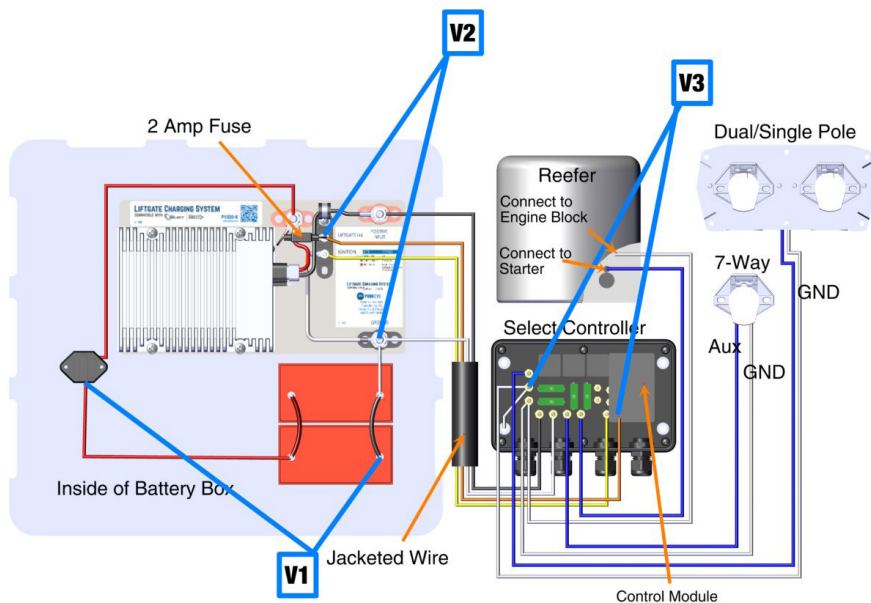

Figure 5
No LED: Open circuit between liftgate battery positive or liftgate battery ground and the Select Controller. Follow the steps below to diagnose the No LED Status (see Figure 5).
Step 1: Using a voltmeter, measure the voltage between the DC/DC converter side of the circuit breaker and the negative post on the liftgate battery (see V1 in Figure 5). If the reading is less than 12.0 V, charge or replace the batteries. If the battery reading is higher than 12.0 V, move to step 2.
**Step 2:** Using a voltmeter, measure the voltage between the positive and negative studs on the plate inside the battery box (see V2 in Figure 5). If there is no voltage reading, the issue is either the circuit breaker or the wire from one of these studs to the circuit breaker. Replace the circuit breaker or repair/replace the wire. If there is battery voltage, move to step 3.
**Step 3:** Using a voltmeter, measure the voltage between the ground stud from the 7-way/reefer and the liftgate battery positive stud inside the Select Controller (see V3 in Figure 5). Liftgate battery voltage should read 12.0 or higher. If not, check the 2-amp fuse and replace if necessary. If there is still no voltage reading, repair or replace the wires between the battery box and the Select Controller. Once these steps are completed, if there are still no LEDs, call customer service as the Select Controller may not be functioning properly.